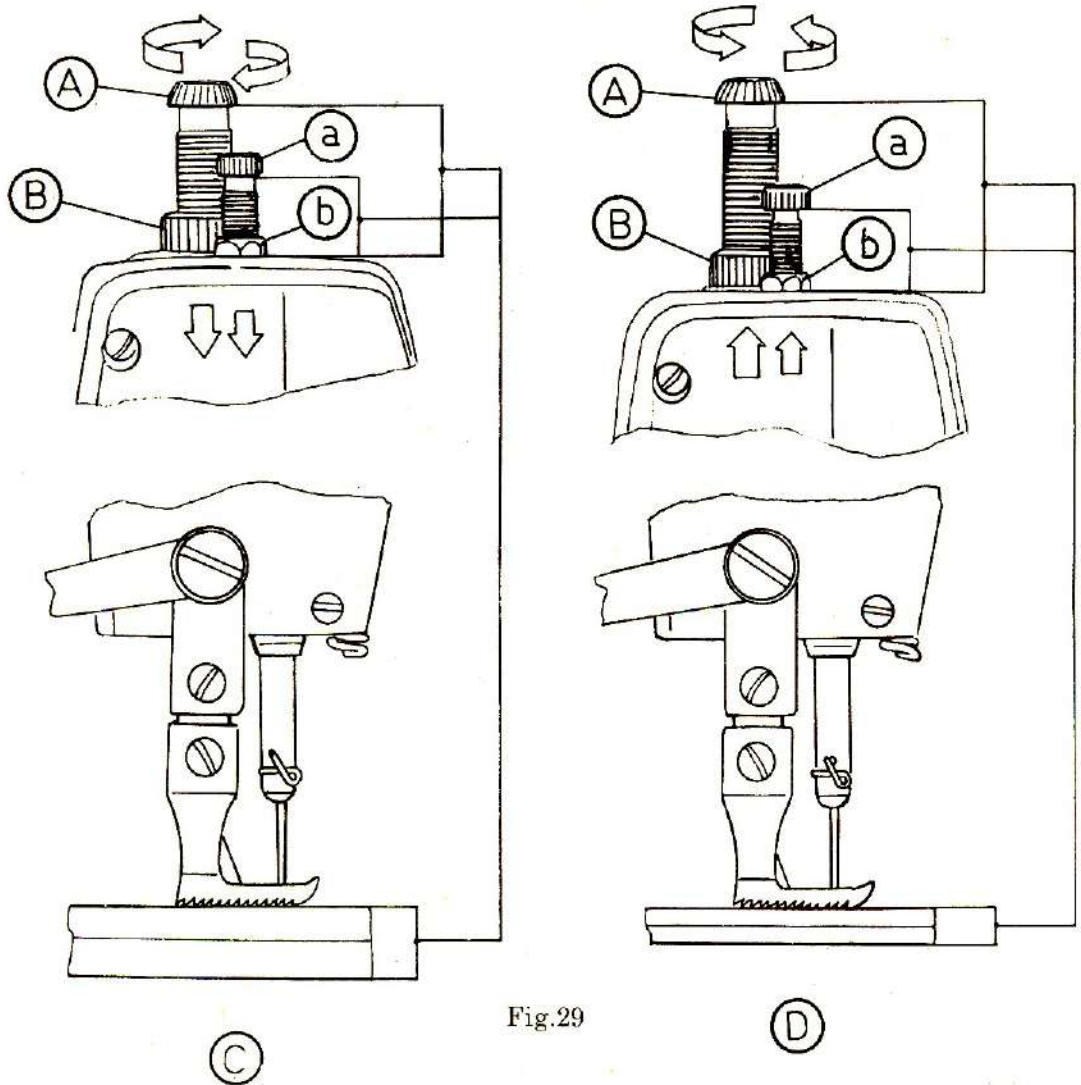

Fig.29
4. adjusting the pressure of the small presser foot and synchronous presser foot (fig 29)
arm head in the direction indicated by the arrow(c)in fig 29.